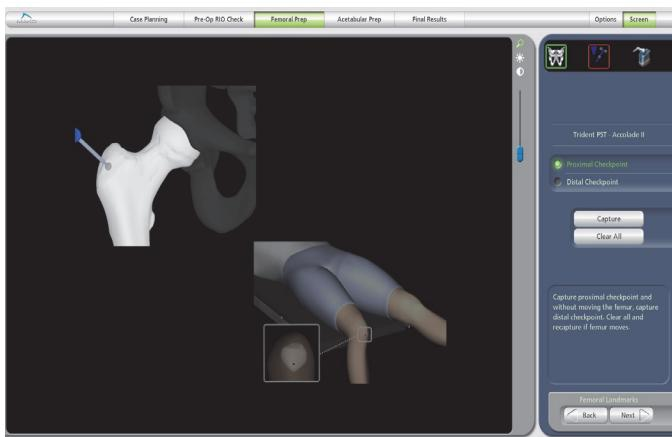

Figure 16. Proximal Femoral Checkpoint
2. Allow the reduced femur to rest without traction in a position with the mechanical axis of the femur approximately parallel to the long axis of the pelvis and patient with the knee flexed approximately 90 degrees. (Figure 16 represents the image display for AL or PL approaches on a right hip; images on the screen will differ slightly for a left hip or for the DA approach.)